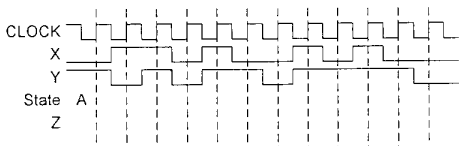

Figure 2
- (b) Complete the timing diagram of Figure 2 by showing the sequence of states that the state machine follows and the waveform of the output signal. [5]